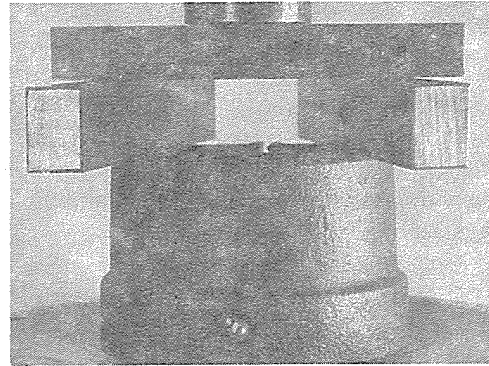

Figure 14
7. Lower the control hub assembly over the adjustable flange, making sure that it is even and not cocked. Carefully press the control hub assembly onto the adjustable flange until the bearing is fully seated (Figure 14).